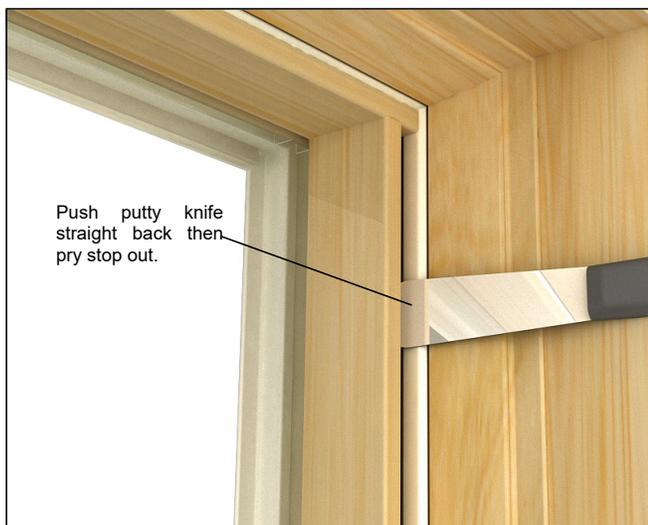

Figure 1
1. Remove the jamb covers and head jamb cover with a stiff bladed putty knife or small pry bar; do not remove the sill stop. Push the tool between the wood cover and vinyl and then pry out carefully. See figure 1.